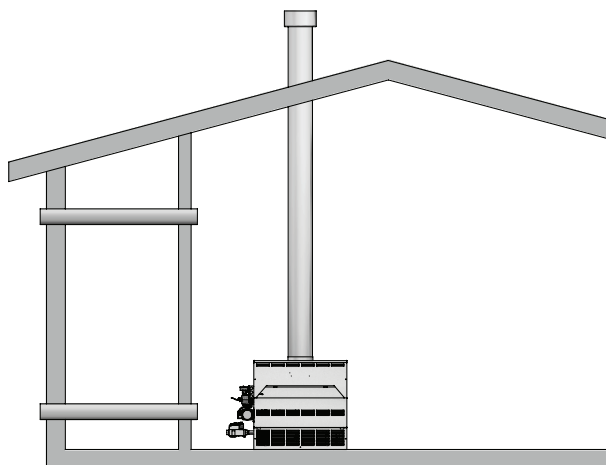

Figure 1-4 *_Combustion Air Through Ducts*
2. If combustion and ventilation air is taken from the outdoors using a duct to deliver the air to the room where the appliance is installed, each of the two openings should be sized based on a minimum free area of one square inch per 2000 Btu/hr (11cm² per kW) (see FIG. 1-4).